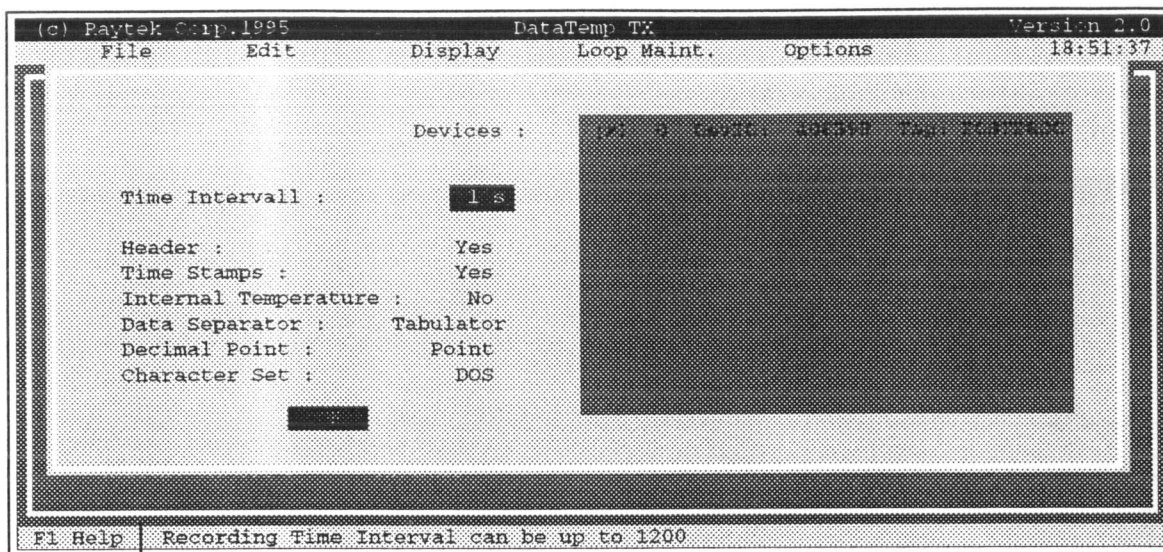

Fig. S-5: Data File Setup
- Activate now **Auxiliary Output Setup** (Options Menu). Screen and function are the same as shown in Fig. S-5, Data File Setup.